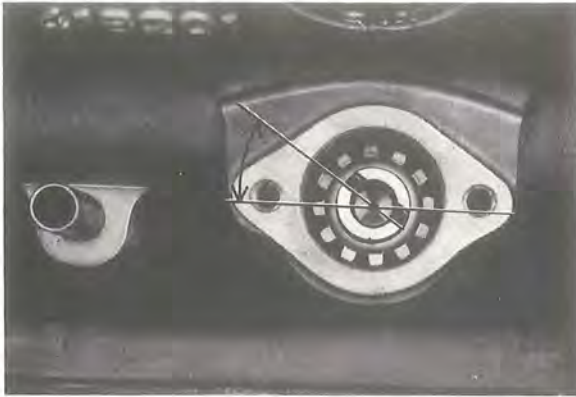

Fig. 2-46. Distributor drive position
When No. 1 cylinder is at top dead centre, fit the oil pump drive and distributor. The small part at the groove is turned abliquely upwards-backwards and the groove set at an angle of 35° to the longitudinal axis of the engine, see Fig. 2-46 (A). Make sure that the shaft goes down into its groove in the pump shaft.